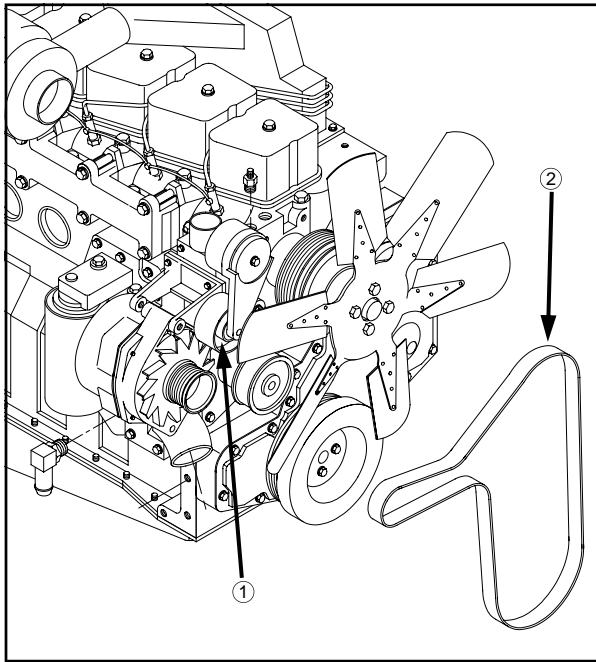

FIG 7.53
**REMOVAL** - Insert a 3/8 inch square ratchet drive into the belt tensioner (fig. 7.53, item 1) and lift upward to remove the belt (fig. 7.53, item 2).